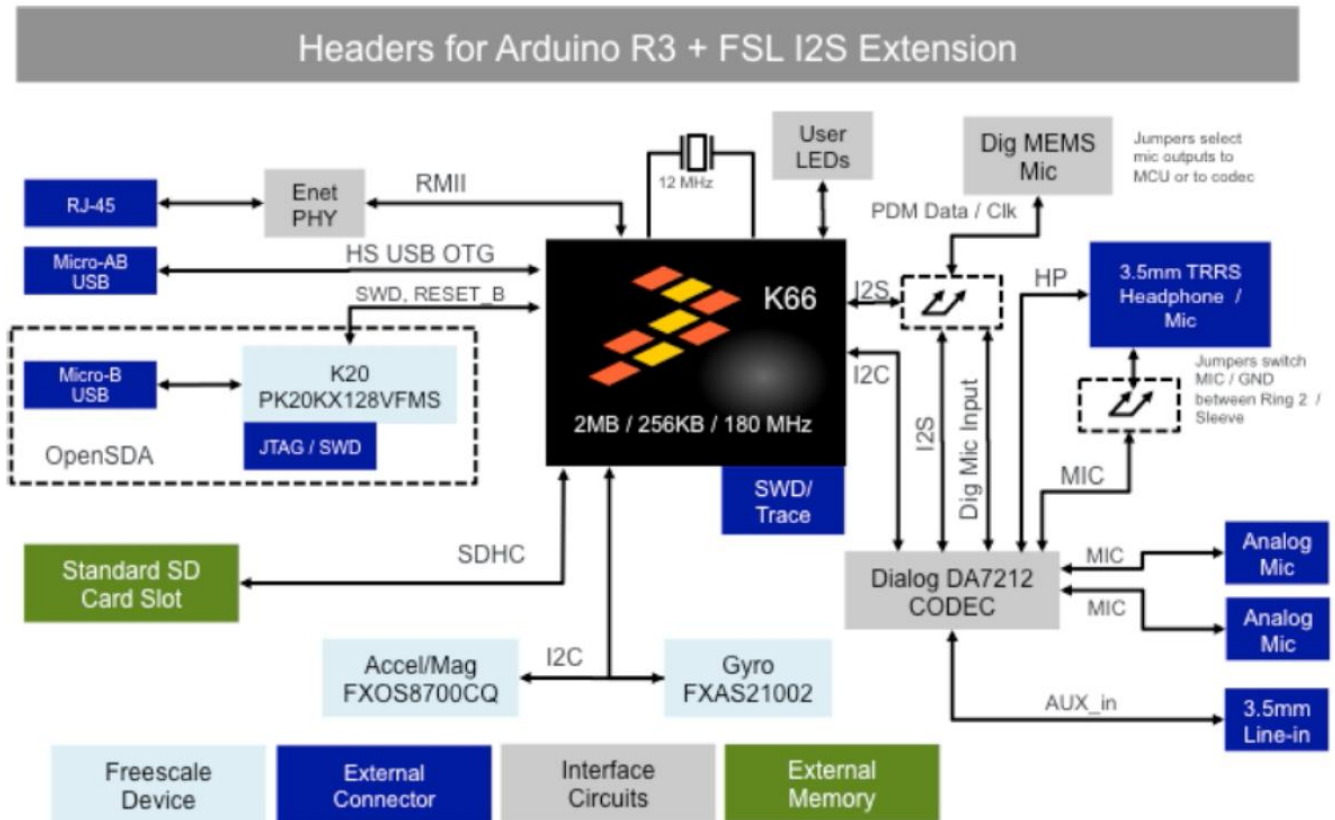
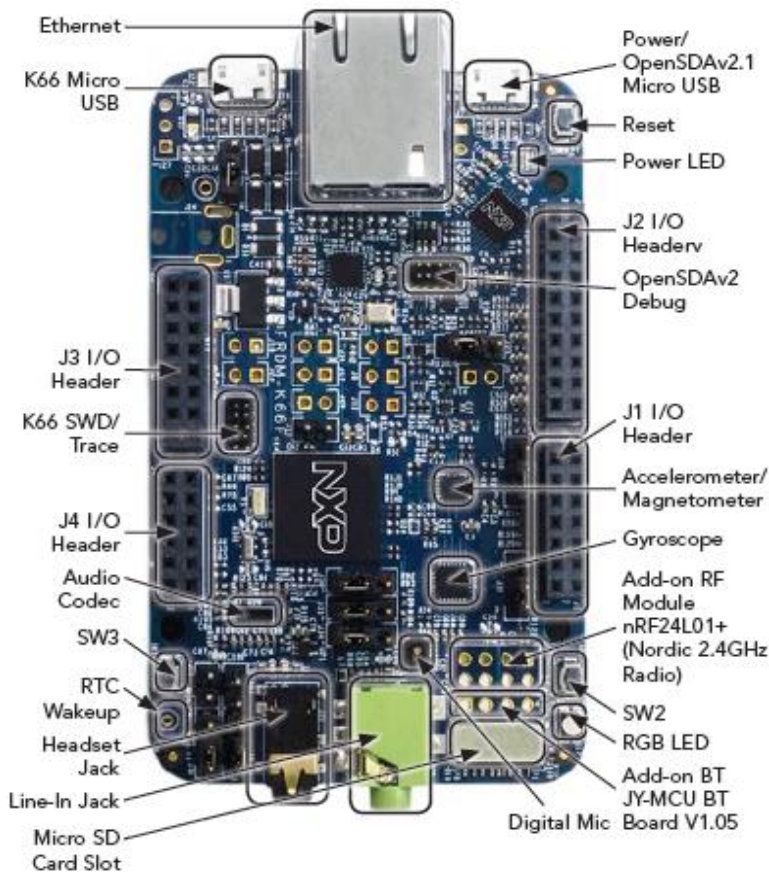

Figure 1. FRDM-K66F block diagram
Figure 2. FRDM-K66F main components placement
*Figure 1* shows a block diagram of the FRDM-K66F design. *Figure 2* explains the primary components and their placement on the hardware assembly.